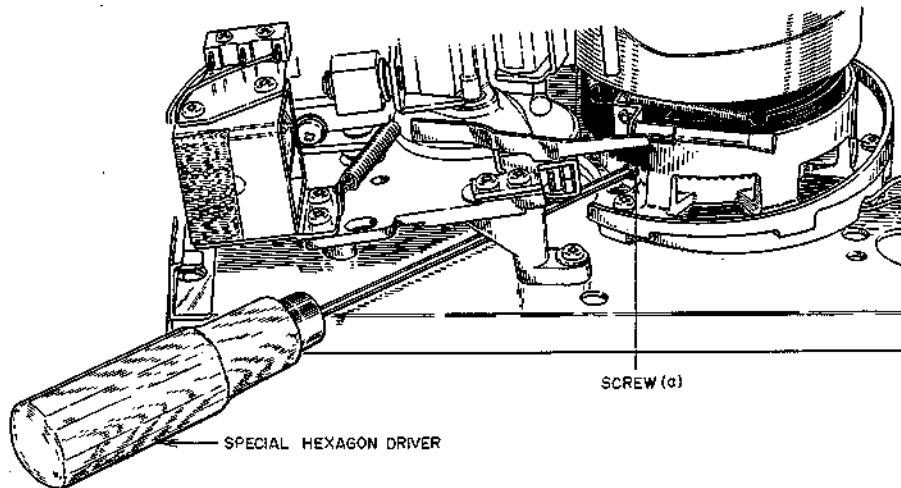

Fig. 4-14
- 4) Remove two of the three 2 mm hexagon screws retaining the drum holder and tighten screw (a) in Fig. 4-14 provisionally.